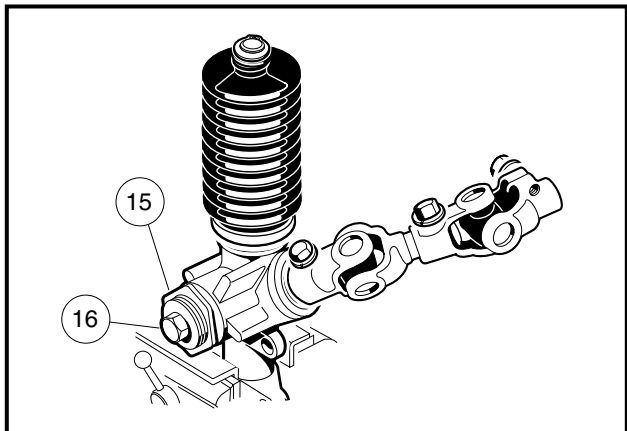

Figure 7-14 Rack and Pinion Adjustment
- 11.4. If measured resistance does not equal 7 to 15 in-lb, loosen the lock nut (15) and tighten the screw (16) until it bottoms out, then back the screw off one quarter turn. Tighten the lock nut to 28 ft-lb (38 N·m) (**Figure 7-14, Page 7-12**).
NOTE: When tightening the lock nut (15) make sure the screw (16) does not change adjustment (**Figure 7-14, Page 7-12**).